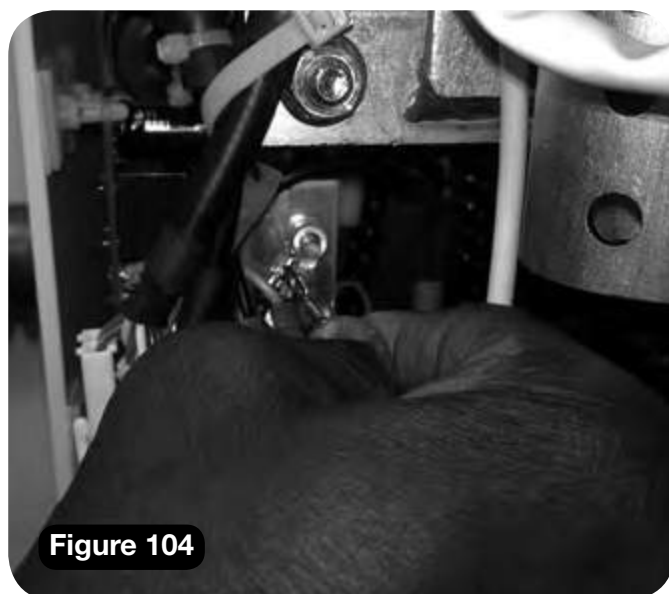

Figure 104
- 9** Connect the earthing terminal (black) to the pack and secure with the nut (**Figures 104 and 105**).